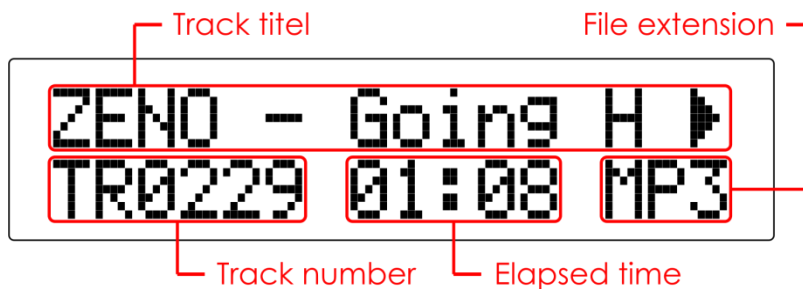

Fig. 07
01) Press the **Play/Pause (9, 34)** button during *Stop mode* or *Pause mode* to start playback. While running a track, the display will look as shown in fig. 07.